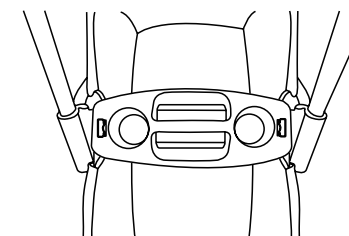

Fig. 5a
- 5) • Attach child tray by lining up the corresponding slots located on stroller frame. Slide down into position until locked into place (Fig. 5a).